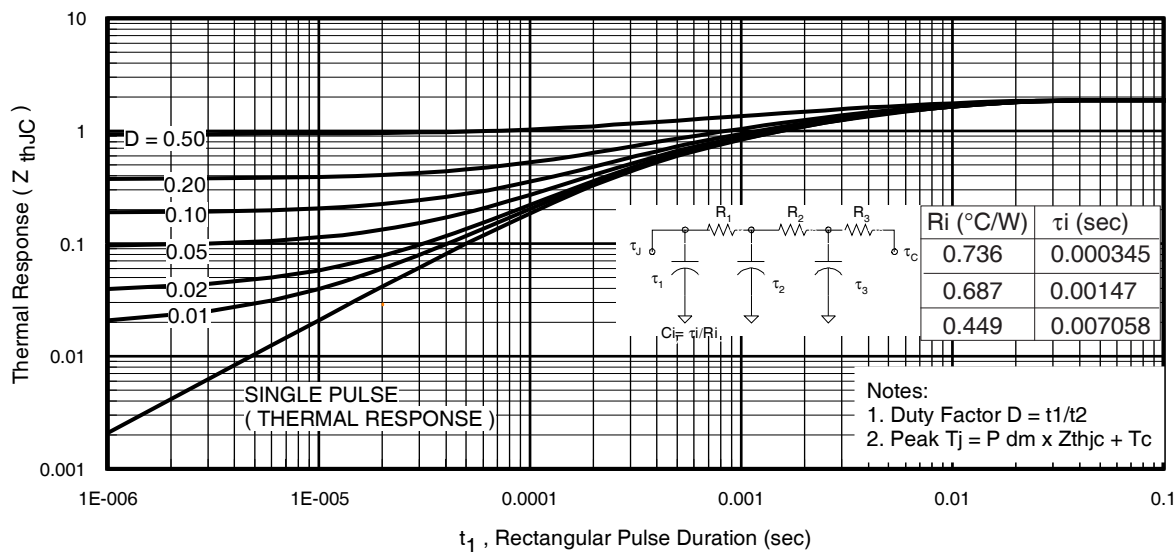
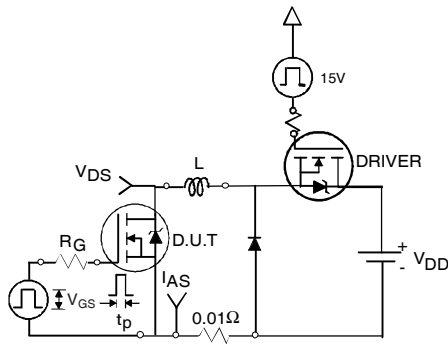

Fig 11. Maximum Effective Transient Thermal Impedance, Junction-to-Case
Fig 12a. Unclamped Inductive Test Circuit
- ① Repetitive rating; pulse width limited by max. junction temperature. (See fig. 11).
- ② Limited by T_{Jmax} ; starting $T_J = 25^\circ\text{C}$, $L = 0.166mH$, $R_G = 25\Omega$, $I_{AS} = 31A$, $V_{GS} = 10V$. Part not recommended for use above this value.
- ③ Pulse width $\leq 1.0ms$; duty cycle $\leq 2\%$.
- ④ $C_{oss\ eff.}$ is a fixed capacitance that gives the same charging time as C_{oss} while V_{DS} is rising from 0 to $80\% V_{DSS}$.
- ⑤ Limited by T_{Jmax} ; see Fig.12a, 12b, 15, 16 for typical repetitive avalanche performance.
- ⑥ This value determined from sample failure population, starting $T_J = 25^\circ\text{C}$, $L = 0.166mH$, $R_G = 25\Omega$, $I_{AS} = 31A$, $V_{GS} = 10V$.
- ⑦ R_θ is measured at T_J approximately 90°C .
3. Equation below based on circuit and waveforms shown in Figures 12a, 12b.
$Z_{thJC}(D, t_{av})$ = Transient thermal resistance, see figure 11)